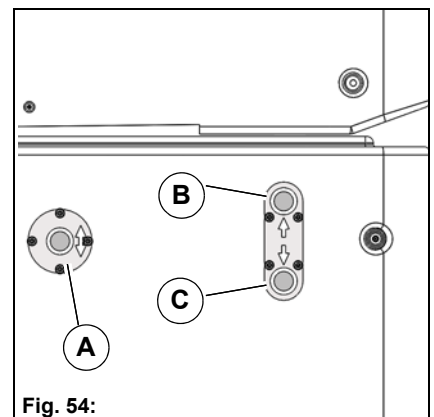

Fig. 54:
- Raise tipper body: Press the button **Fig. 54-A** and the button **Fig. 54-B** simultaneously
- Lower tipper body: Press the button **Fig. 54-A** and the button **Fig. 54-C** simultaneously